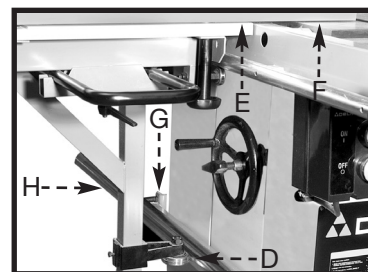

Fig. 55
5. Move the sliding table to the rear position until the bearing (D) Fig. 55 is positioned opposite the rear lower rail mounting bolt (G).
6. Check the gap between the bottom of the fence and the saw table at points (E) and (F) Fig. 55 to see if the gap is the same at both points.
7. Make any adjustments with the two nuts, one of which is shown at (G) Fig. 55. The other nut is located inside the stand or cabinet on the contractor's saw. (For the other machines, both nuts are located on the bracket.) Adjusting the nuts (G) will move the lower rail (H) closer to or farther away from the other side of the bracket or the stand/cabinet. Do not adjust the nut next to the guide rail (H). Adjust the nuts until the gap between the bottom of the fence and the table is the same at points (E) and (F) Fig. 55.